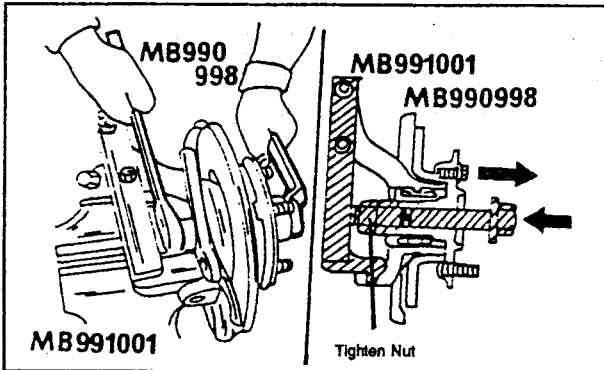

Fig. 9.10. — Use of the special tools to remove and refit the wheel bearings and wheel hub to the steering knuckle.
- Using a soft-metal drift, drive the wheel hub out of the wheel bearing from the rear of the steering knuckle, but only if the bearings need replacement. Otherwise use the extractor screw as shown in Fig. 9.10. The inner bearing race of the outer bearing will remain on the hub and must be removed with a suitable puller. As the oil seal will still be in position on the wheel hub you will have to cut it away in order to insert the claws of a two-arm puller underneath the bearing race. Take care not to damage the toothed rotor if the vehicle has ABS.
- Use the extractor bolt, used for removal into the wheel hub and the bearings and tighten the nut to 20 to 26 kgm (145 - 188 ft.lb.), at the same time counterholding the bolt head (see Fig. 9.10). Rotate the wheel hub a few times during the tightening operation to settle the bearings.